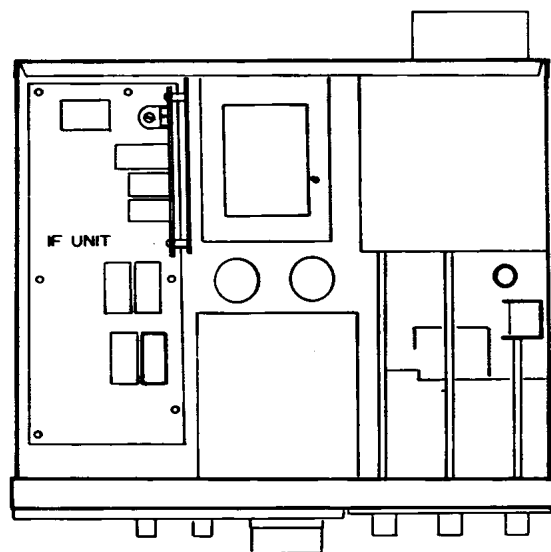

Figure 2
- Remove the six screws attaching the IF Unit (located at the left side of the chassis when viewed from the front, Figure 2).